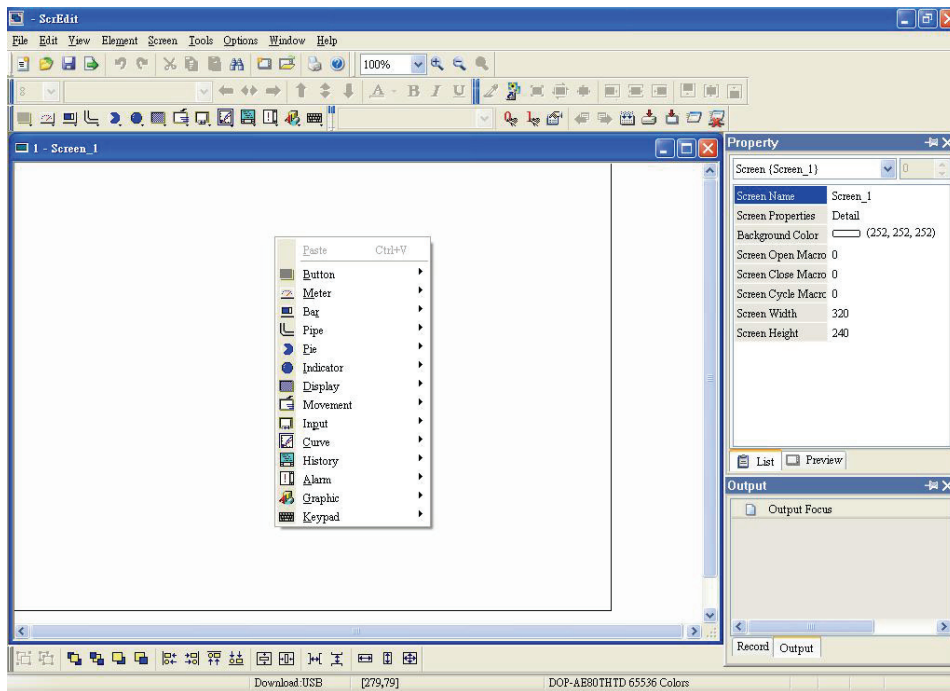

Fig. 3.1.1 Shortcut menu display
1. Right-click the mouse in the work place and a shortcut menu will display as Fig. 3.1.1. The user can choose the desired elements by the mouse.